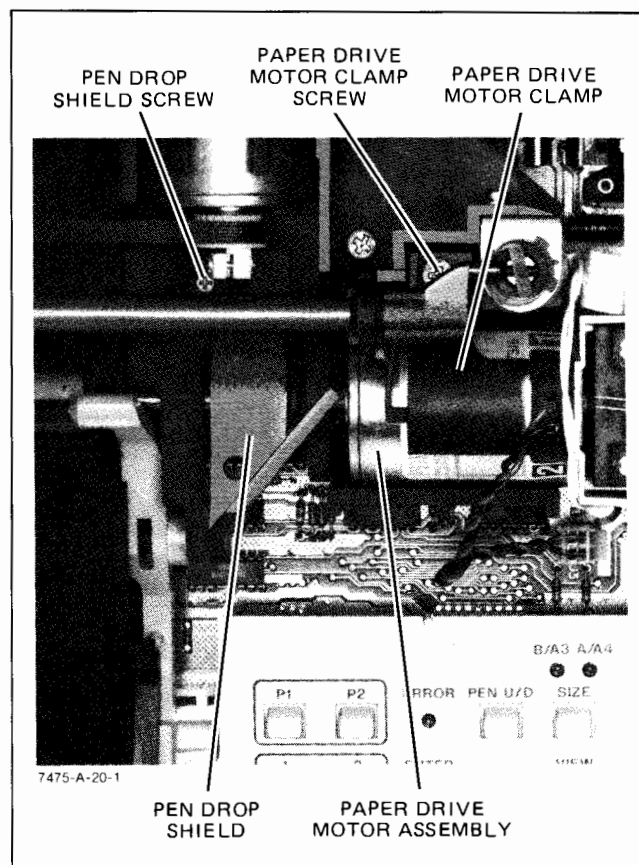

Figure 6-11. Paper Drive Motor Clamp and Pen Drop Shield
- c. Remove the pen drop shield. See Figure 6-11.
- d. Loosen the motor clamp and remove the motor from its mounting. See Figure 6-11.
- b. Loosen the paper drive motor clamp enough to slide the motor to the right about 2 cm (3/4 in.). See Figure 6-11. (Lift the right end of the motor slightly to release the motor from the chassis.)
- b. To remove the right pinch roller arm, the pen drop shield must be removed. See Figure 6-11.